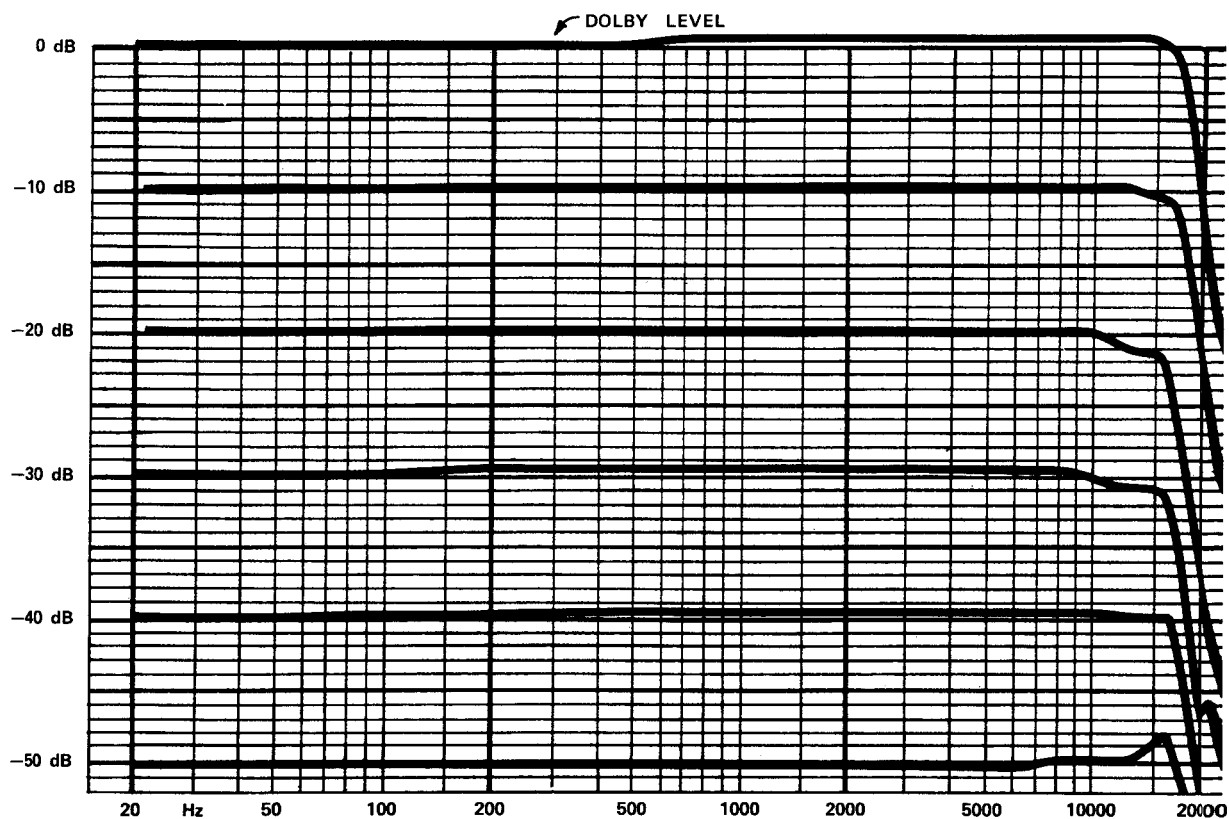

Figure 2-8 Dolby Frequency Response, Flat Mode
- (5) Measure amplitude of output signal at PREAMP OUTPUT Jack.
- (6) Measure amplitude of input signal at SCOPE OUTPUT Jack.
- (7) Calculated gain should be between 32 mV and 100 mV.
E. DOLBY RECORD MODE FREQUENCY RESPONSE (Figures 2-8 through 2-10)
- (1) When encoder functions as a flat amplifier:
- (2) When encoder functions as an encoder:
F. DOLBY PLAYBACK MODE FREQUENCY RESPONSE (Figures 2-8 through 2-10)
(1) When decoder functions as a flat amplifier: